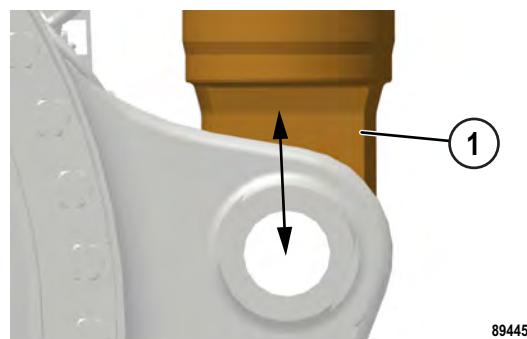

FIGURE 50-48. LOWER SUSPENSION EYE ALIGNMENT
13. Adjust the height of piston rod (1, Figure 50-48) until the lower suspension eye is aligned with the lower frame mounting ears.